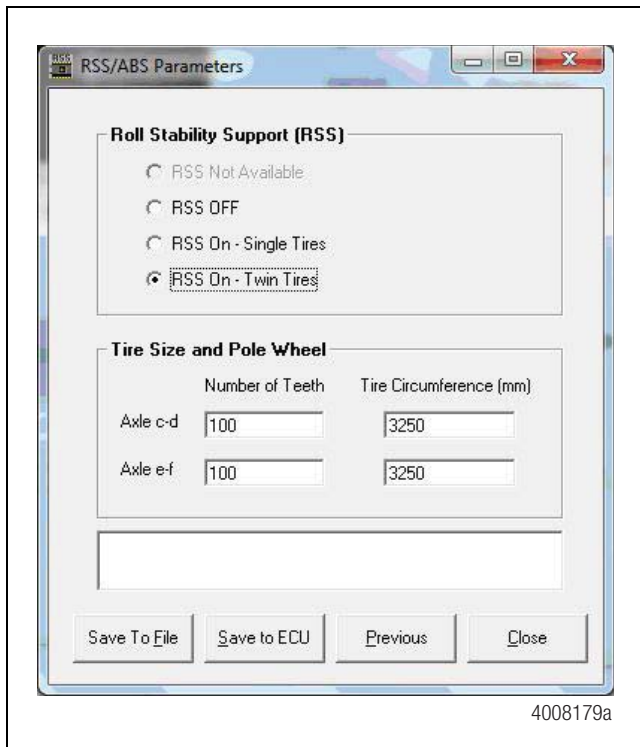

Figure 13
- From the parameter screen labeled *RSS/ABS Parameters*, press the **Save To ECU** button located at the bottom of the window. There is no change in parameters at this screen. Figure 13.